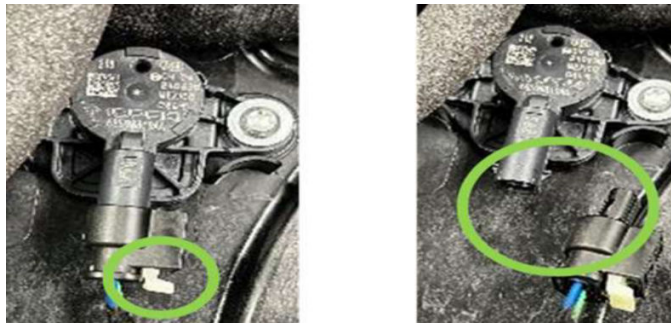

Fig. 15
17. Once tab is unseated, disconnect the wire harness connector Fig. 15.